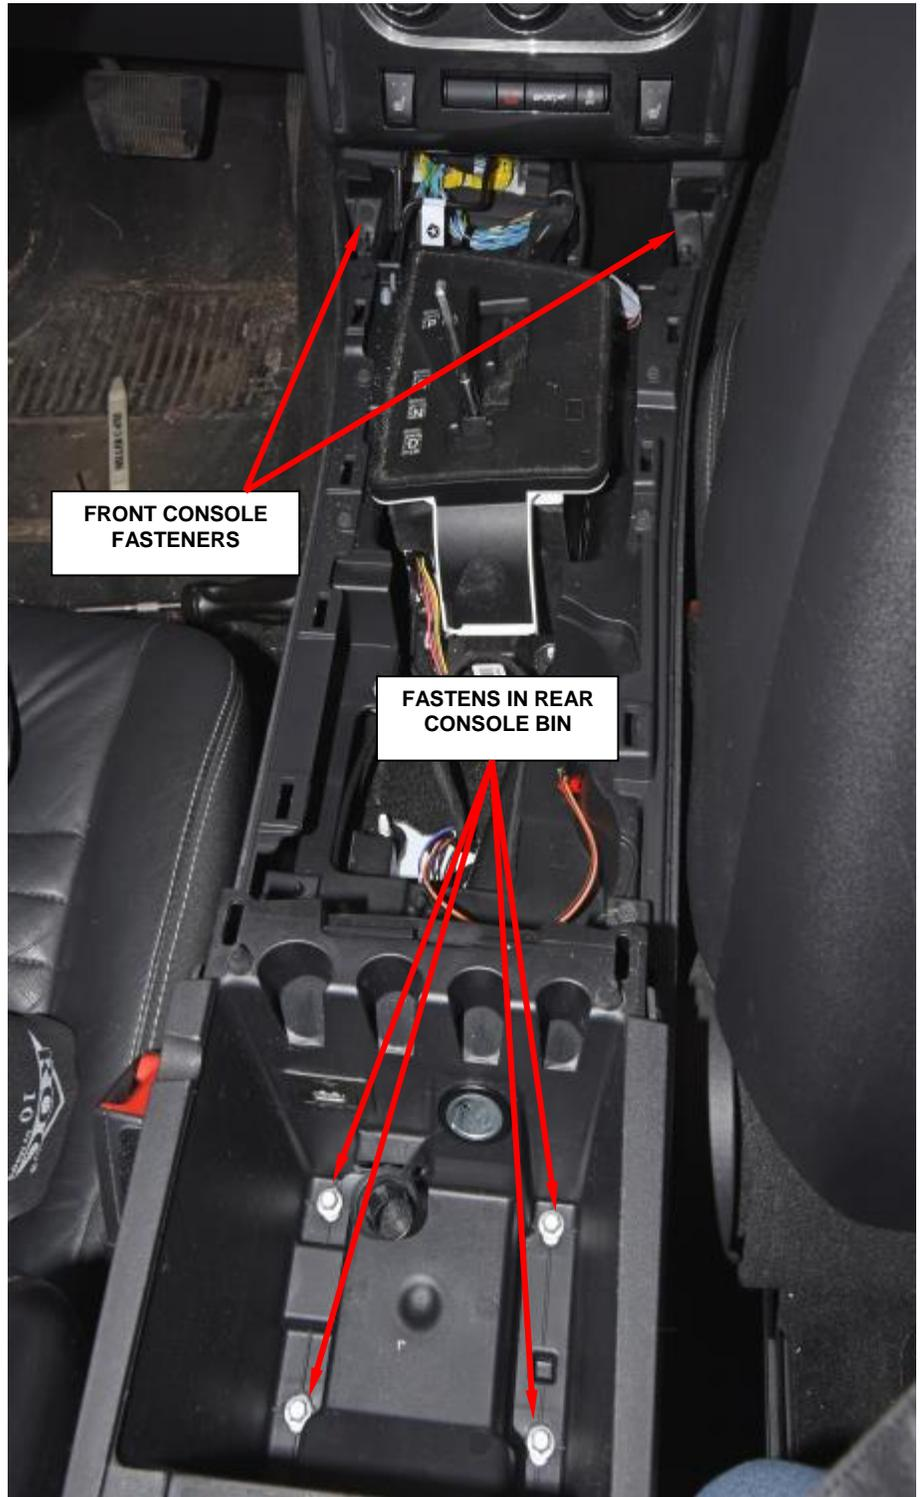

Figure 41 – Floor Console
13. Remove the four fasteners from the rear bin that secure the console to the floor panel transmission tunnel (Figure 41).
14. Remove the two fasteners that secure the front of the console to the instrument panel (Figure 41).